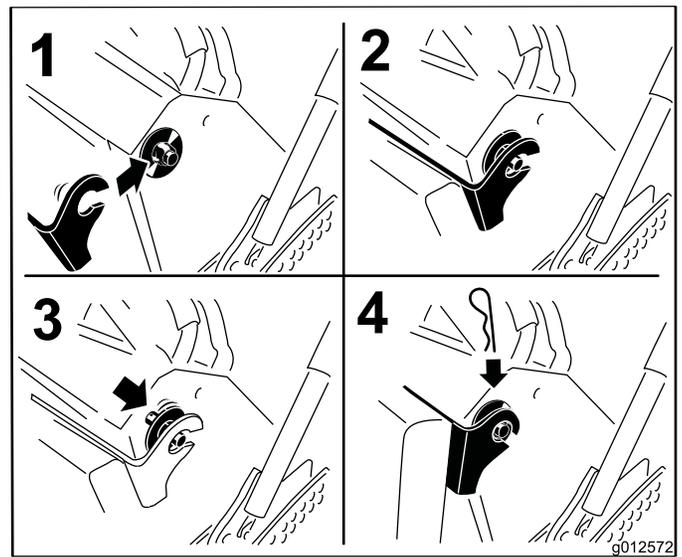

Figure 36
6. Raise the cushion and slide it onto the pins on both sides of the machine (Figure 36).
7. Slide the large washers with plastic bushings into the cushion bracket and secure them with a hairpin-cotter pin (Figure 36).